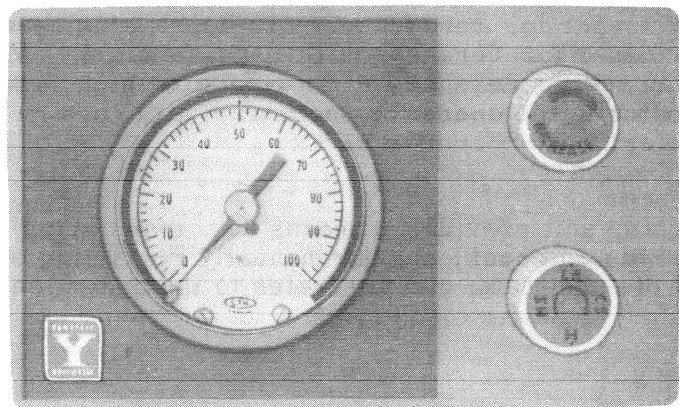

Fig. 2 Manual loader with transfer switch, for cascade control
- Fig. 2 Manual loader with transfer switch, for